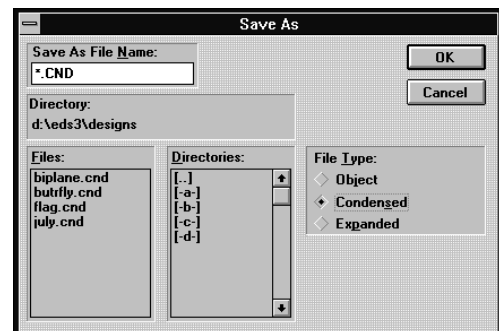

Figure 5-50
2. Click on Save As in the drop-down menu. The Save As dialog box displays as shown in Figure 5-50.